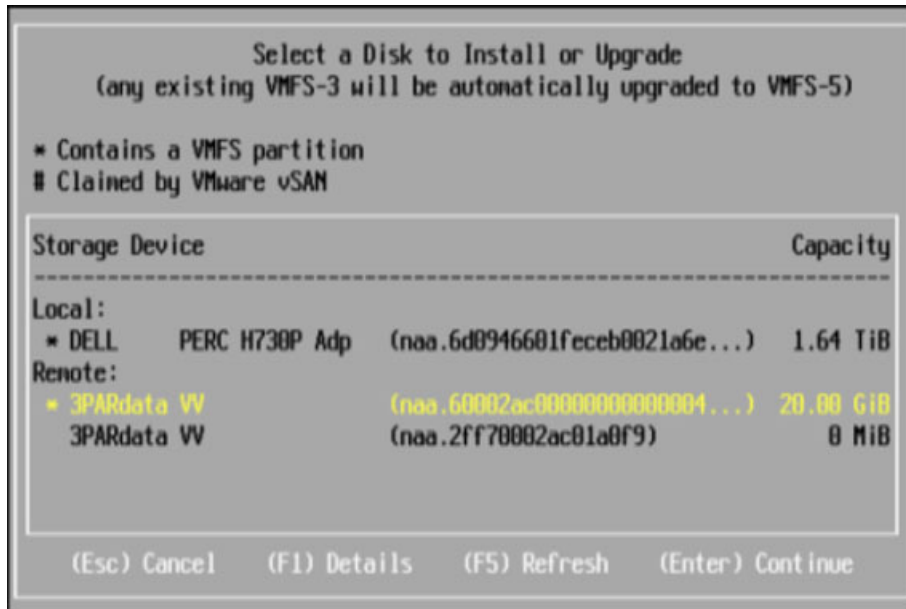

Figure 6-24. VMware iSCSI BFS: Selecting a Disk to Install
5. On the Select a Disk To Install Or Upgrade window, under **Storage Device**, select the **3PARdata W** disk, and then press the ENTER key. Figure 6-24 shows an example.